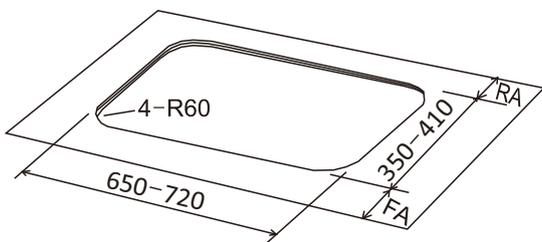

**Fig.10**
- ✓ The hob must be installed at least 70mm away from the rear wall(Fig.10).
- ✓ There must be a distance of at least 750 mm between the hob and any wall cupboard or extractor hood positioned immediately above (Fig.10).